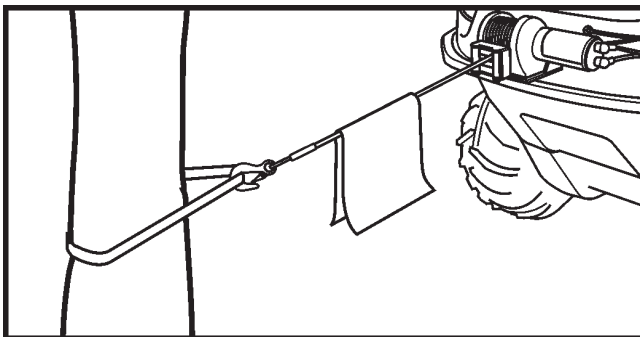

Figure 11-11. Using a cloth damper.
9. It is a good idea to lay a heavy blanket or jacket over the wire rope near the hook end when pulling heavy loads (Figure 11-11). If a wire rope failure should occur, the cloth will act as a damper and help prevent the rope from whipping.